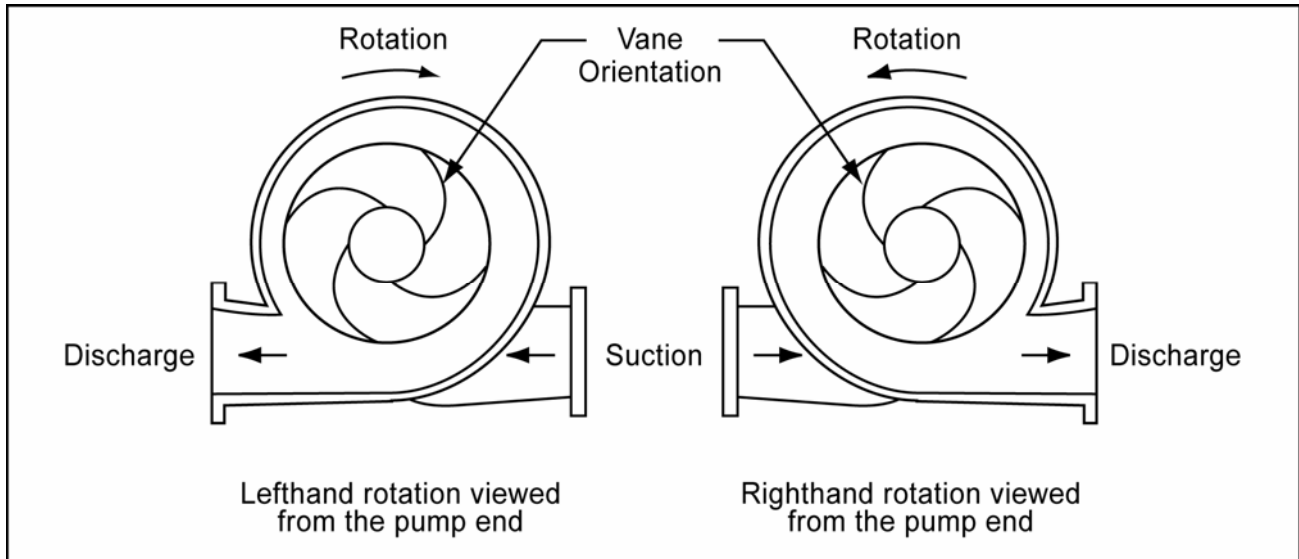

Figure 52: Impeller to Volute Orientation
Refer to Figure 52 to check that the impeller, shaft, and volute are orientated correctly for the required rotation before proceeding.
3. Press the (press-fitted) impeller off the shaft. Observe the direction in which the vane tips are pointing. Turn the impeller end for end (180°) and press it back onto the shaft. Refer to the section entitled **Assembly Procedure to Install Coverplates and Shaft Assembly**. The vane tips should be pointing in the opposite direction. (See Figure 52.)
4. Reinstall the rotating assembly per the section entitled **Assembly Procedure to Install Coverplates and Shaft Assembly**. Check the impeller to volute relationship per Figure 52.